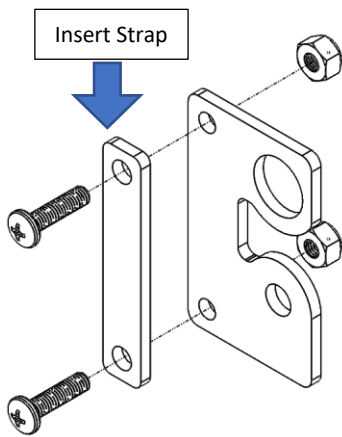

Figure 5: Adjustable Strap Clamp Assembly
18. Install the adjustable door strap onto the hard stop bracket using the strap clamp to secure it. Feed the strap clamp through the largest eyelet in the strap and bolt it to the hard stop bracket. Direct the strap towards the lower hinge when tightening down the clamp. Reference Figure 5 and 6.